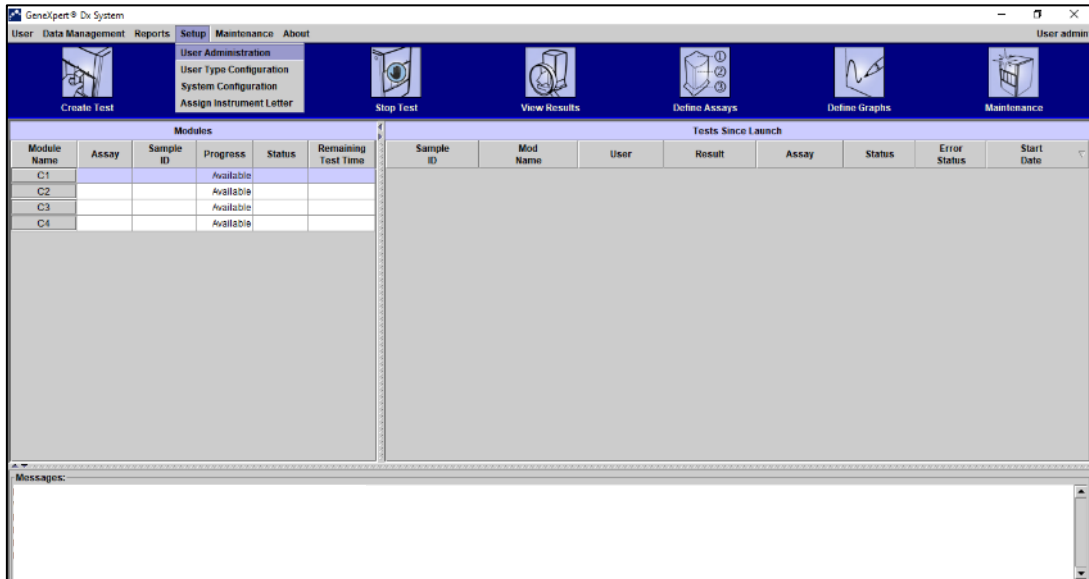

Figure 8. Setup and User Administration location
- C. Select *User Administration* (Figure 8.).